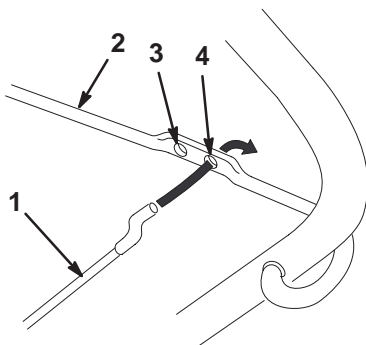

Figure 9
- Insert the loose end of the control cable into the bottom hole in the control bar (Fig. 9).